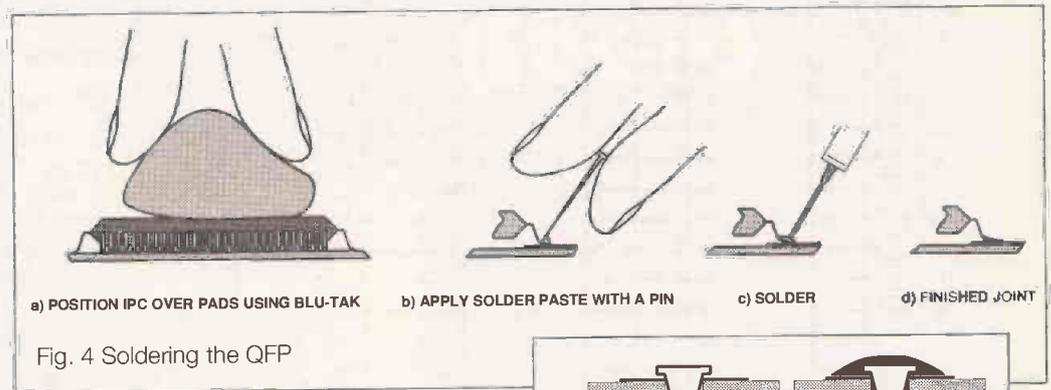

Fig. 4 Soldering the QFP
Be careful not to get the IC too hot. Although the paste will melt when the soldering iron comes close, the (IC) pin and track should be touched, to get a good joint. Figure 4 shows the process. Check each joint carefully for solder bridges and a little solderwick can be used to clear these up. This process may take around an hour (or two with coffee breaks!), but trying to rush is a recipe for disaster.